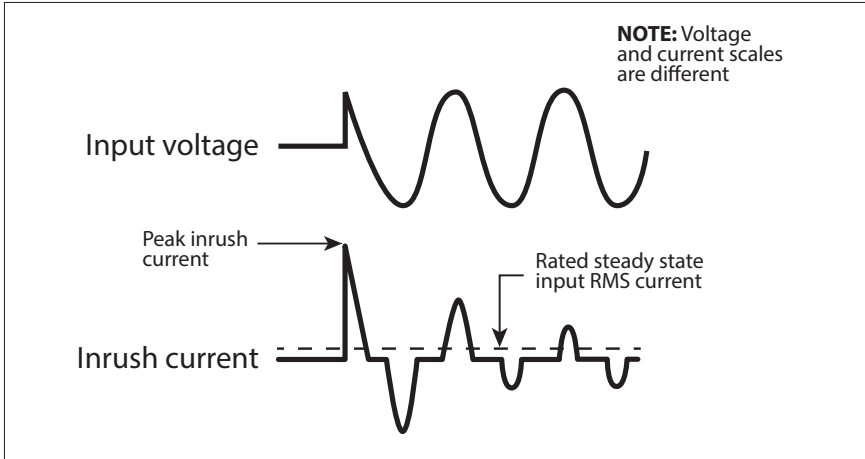

Fig 4.1: Inrush current in an SMPS
**Maximum Continuous Running AC Power Rating:** This rating may be specified as “Active Power” in Watts (W) or “Apparent Power” in Volt Amps (VA). It is normally specified in “Active Power (P)” in Watts for Resistive type of loads that have Power Factor =1. Reactive types of loads will draw higher value of “Apparent Power” that is the sum of “Active and Reactive Powers”. Thus, AC power source should be sized based on the higher “Apparent Power” Rating in (VA) for all Reactive Types of AC loads. If the AC power source is sized based on the lower “Active Power” Rating in Watts (W), the AC power source may be subjected to overload conditions when powering Reactive Type of loads.
- **AC to DC Switched Mode Power Supplies (SMPS):** This type of power supply is used as stand-alone power supply or as front end in all electronic devices powered from Utility / Grid e.g. in audio/video/ computing devices and battery chargers (Please see Section 4 for more details on SMPS). When this power supply is switched ON, its internal input side capacitors start charging resulting in very high surge of Inrush Current for a few millisecs (Please see Fig 4.1). This surge of inrush current / power may reach up to 15 times the Continuous Maximum Running Power Rating. The surge of inrush current / power will, however, be limited by the Surge Power Rating of the AC source.
Switch Mode Power Supplies (SMPS) are extensively used to convert the incoming AC power into various voltages like 3.3V, 5V, 12V, 24V etc. that are used to power various devices and circuits used in electronic equipment like battery chargers, computers, audio and video devices, radios etc. SMPS use large capacitors in their input section for filtration. When the power supply is first turned on, there is a very large inrush current drawn by the power supply as the input capacitors are charged (The capacitors act almost like a short circuit at the instant the power is turned on). The inrush current at turn-on is several to tens of times larger than the rated RMS input current and lasts for a few milliseconds. An example of the input voltage versus input current waveforms is given in Fig. 4.1. It will be seen that the initial input current pulse just after turn-on is > 15 times larger than the steady state RMS current. The inrush dissipates in around 2 or 3 cycles i.e. in around 33 to 50 milliseconds for 60 Hz sine wave.